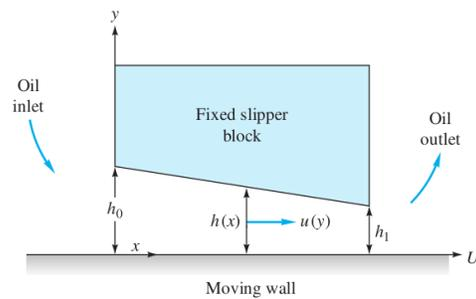

Fig. 4.13
- 4.13 The flow pattern in bearing lubrication can be illustrated by Fig. 4.13, where a viscous oil (ρ, μ)